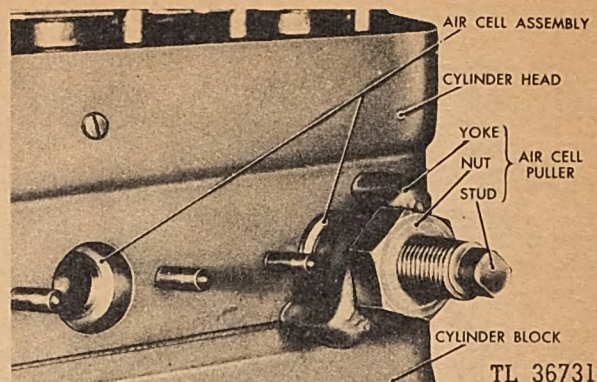

Fig. 79. Removing Energy Cell
(9) Pull the energy cell from the cylinder head with the puller furnished with the engine. (See Figure 79.) To use the puller, screw the large end of the puller stud into the air cell, slip the yoke over the stud, and screw the nut on the stud. Turning the nut will draw the air cell from the head. (The air cell is ordinarily a sliding fit in the cylinder head, but a slight accumulation of carbon may necessitate